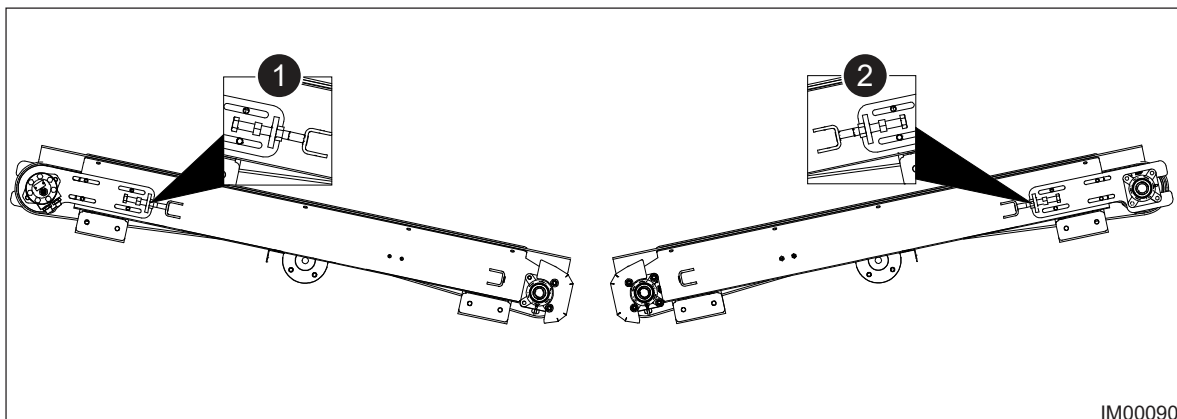

Fig: 11.29 - Belt Adjusters
4. Tighten the belt by rotating the adjusters clockwise and evenly, on both sides of the conveyor (Items 1 & 2, Fig: 11.29). It is important to turn each adjuster the same rotation, otherwise, the belt will track off alignment when put into operation. Do not over tighten the belt.
- Use a spanner to rotate the right side adjuster (Item 1, Fig: 11.29) a 1/4 turn (clockwise), then observe the belt alignment. Repeat this step until alignment is satisfactory.
- If the belt was under too much tension, rotate the left side adjuster (Item 2, Fig: 11.29) a 1/4 turn (counter-clockwise), then observe the belt alignment. Repeat this step until alignment is satisfactory.
- Use a spanner to rotate the left side adjuster (Item 2, Fig: 11.29) a 1/4 turn (clockwise) then observe the belt alignment. Repeat this step until alignment is satisfactory.
- Or if the belt would be under too much tension, rotate the right side adjuster (Item 1, Fig: 11.29) - one turn (counter clockwise) then observe the belt alignment. Repeat this step until alignment is satisfactory.
(4) Mid & Fines Size Conveyor**(a) Belt Tensioning****NOTICE**